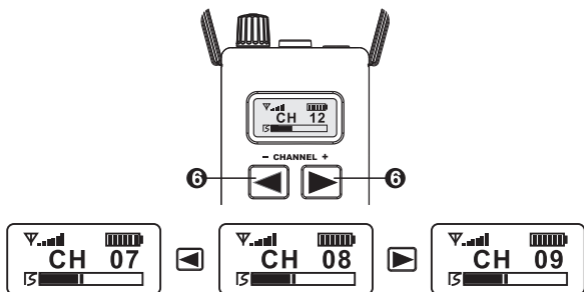

Fig. 3
1. Press ◀ or ▶ channel button for a factory pre-set channel. Channels CH 01 ~ 16 will be displayed accordingly, Fig. 3.